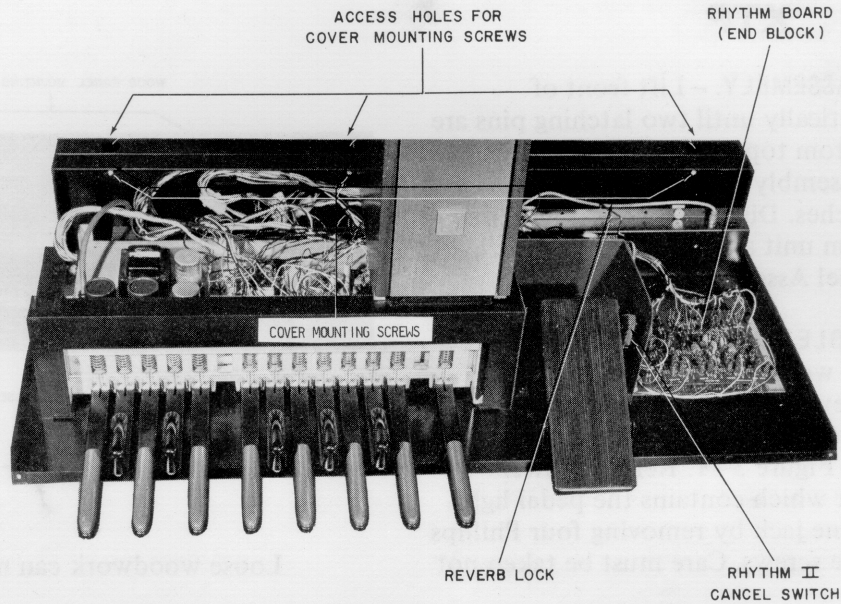

Fig. 3-3
**3-18. BASE REAR COVER.** — Six screws are used to mount the Base Rear Cover. The top three can be removed from the inside of the base assembly. The bottom three can be reached through three round access holes in the top of the Base Rear Cover as illustrated in Figure 3-3.